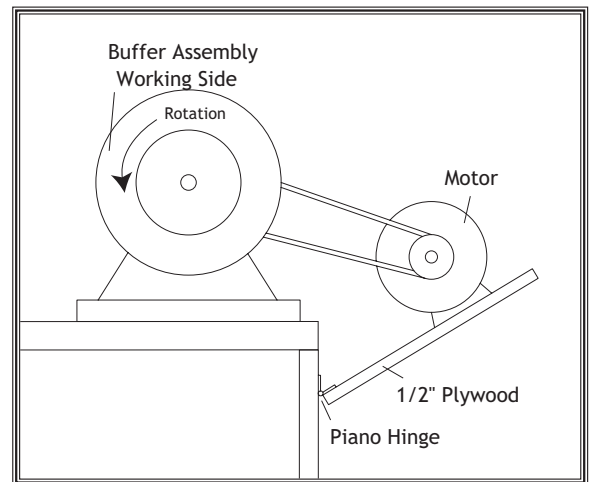

Figure 6. Side view of motor mounting behind.
4. Place the buffing assembly over the mounting holes in the workbench. Using (4) 5/16" diameter lag bolts or through bolts, attach the buffing assembly to the workbench, making sure that it is secure.
5. Mount the motor on a 1/2" plywood platform and attach to the back of the workbench with a piano hinge as shown in **Figure 6**. Be sure to orient the motor rotation so the buffing wheels will be rotating downward on the working side of the buffing assembly. Attach the motor so the motor pulley is in-line with the arbor pulley.